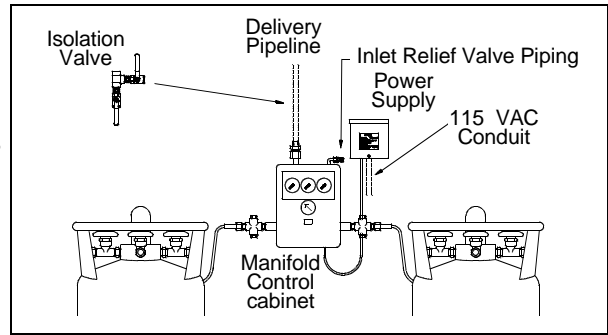

FIGURE 6
1. A 1/2" NPT male union is supplied with the control and is located at the upper left side of the manifold control. Connect this union to the pipeline system. Sweat joints must be silver soldered. Use BAg series silver solder (DO NOT USE SOFT SOLDER). Heat the entire joint evenly. Apply enough heat favoring heavy sections, so that solder flows freely around the joint leaving no pin holes. (See National Fire Protection Association Pamphlet No. 99). The union provided permits removal of the manifold control for service. (Figure 6)
1. A 24 VAC power supply transformer is furnished with the control unit. Mount the box on the wall with the bottom edge approximately at the top of the control cabinet. The attached control cable terminates in a 4-way plug matching a receptacle on the bottom of the control cabinet. (Figure 6)